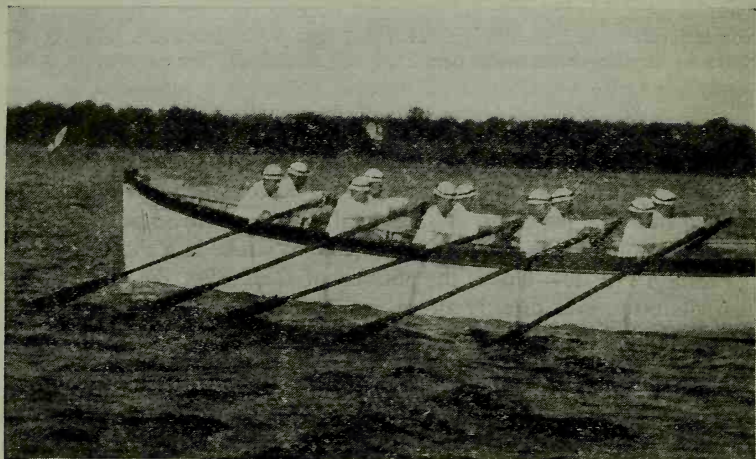

FIG. 11-2—Position No. 3, middle of stroke.
**Position No. 3.**—This is the *Middle of the stroke*. (Fig. 11-2.) The blade entered the water from position No. 2, and the pull up to this time has been made by leaning back. The arms are still straight, eyes astern.